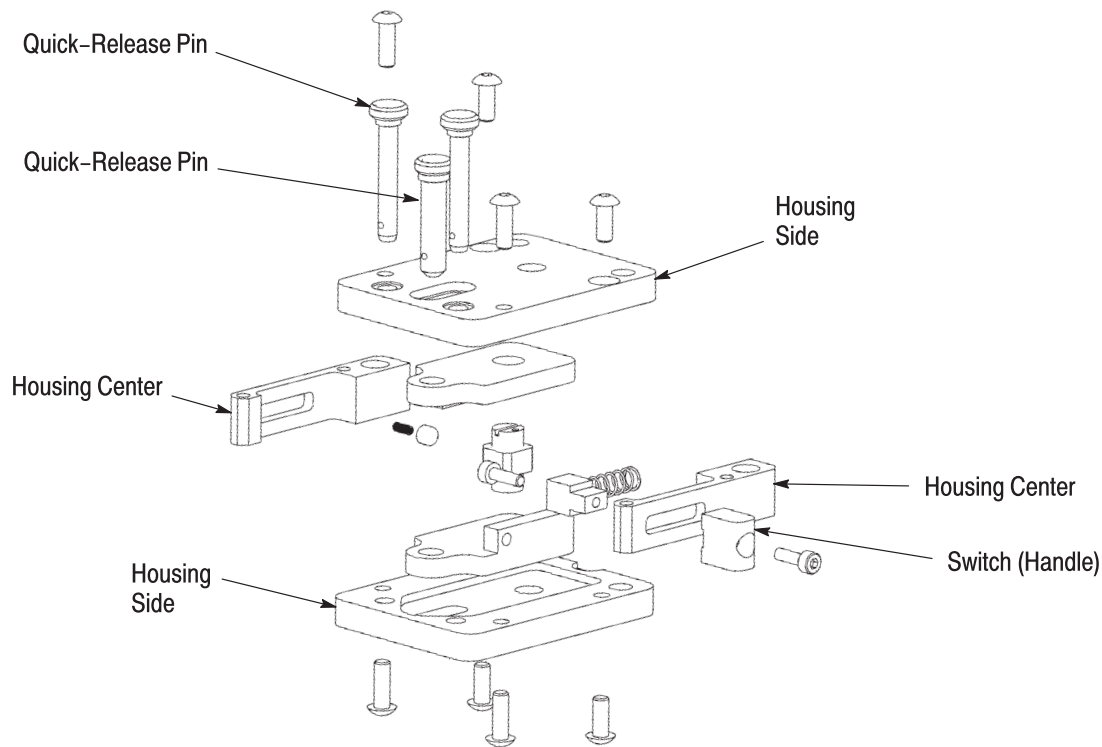
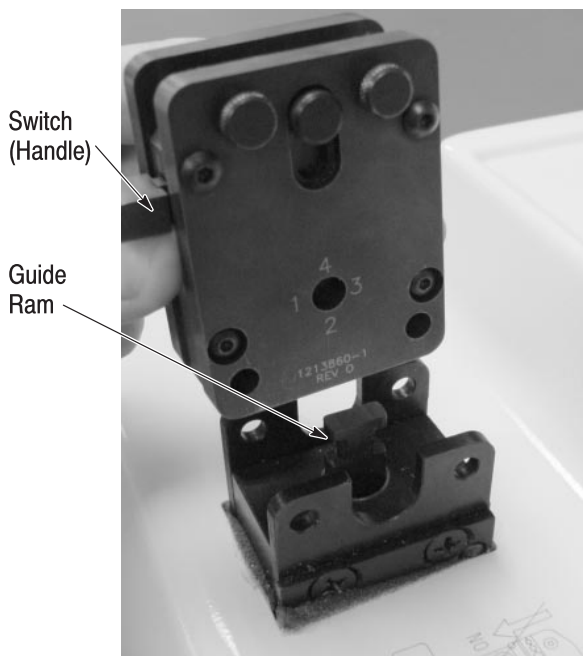
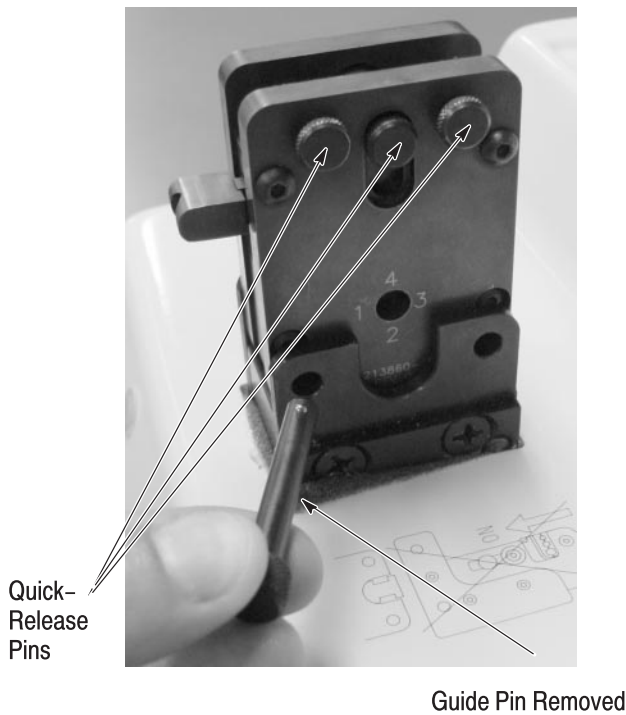

Figure 2
Figure 3
Figure 4
The tool holder assembly features a switch (handle) and three quick pins. See Figure 2. The switch (handle) can be used to manually open and close the dies of the crimping head for insertion and removal of the product.
Before mounting the CERTI-CRIMP II Tool Holder Assembly, always make sure the guide ram of the terminator is in the lowest position. See Figure 3.
3. Mount the tool holder assembly from the back and lock with the guide (safety) pins. Refer to Figure 3 and Figure 4.
As supplied, the tool holder assembly has three quick-release pins installed (Figure 2 and Figure 4).
1. Remove the quick-release pins shown in Figure 4.